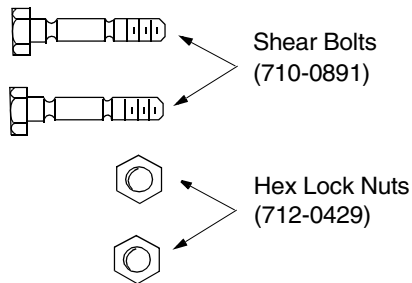

Figure 1
- The snow thrower is shipped with the following loose parts in the carton. Refer to Figure 1 for illustration, description of item, and part number. Please remove all loose parts from the carton before discarding it.